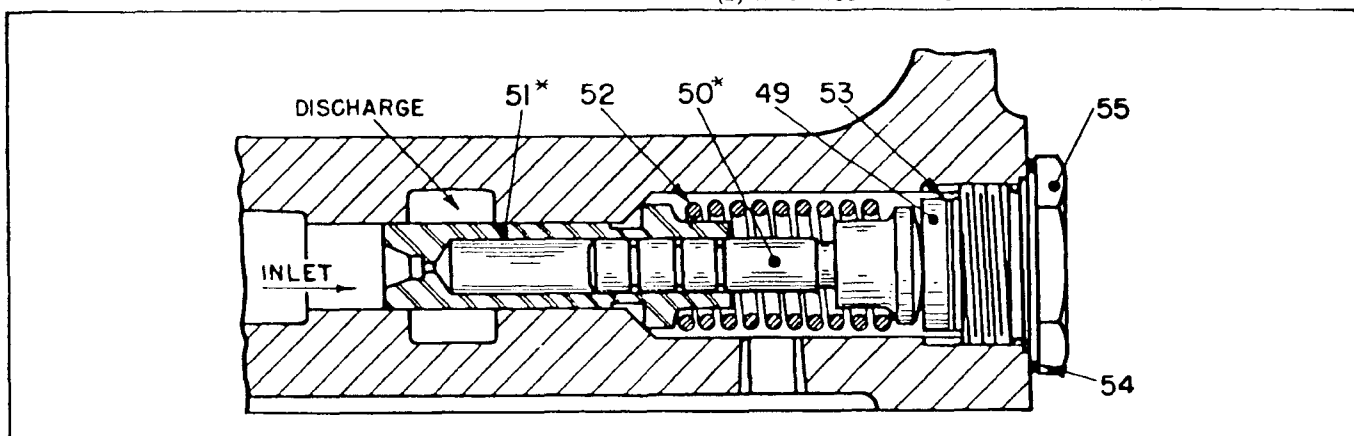

Figure 8. Typical Gear Pump Relief Valve (2V-8374-L)
B. GEAR PUMP RELIEF VALVE (GPRV). Refer to figure 8.
B. GPRV (all sizes) refer to figure 8.